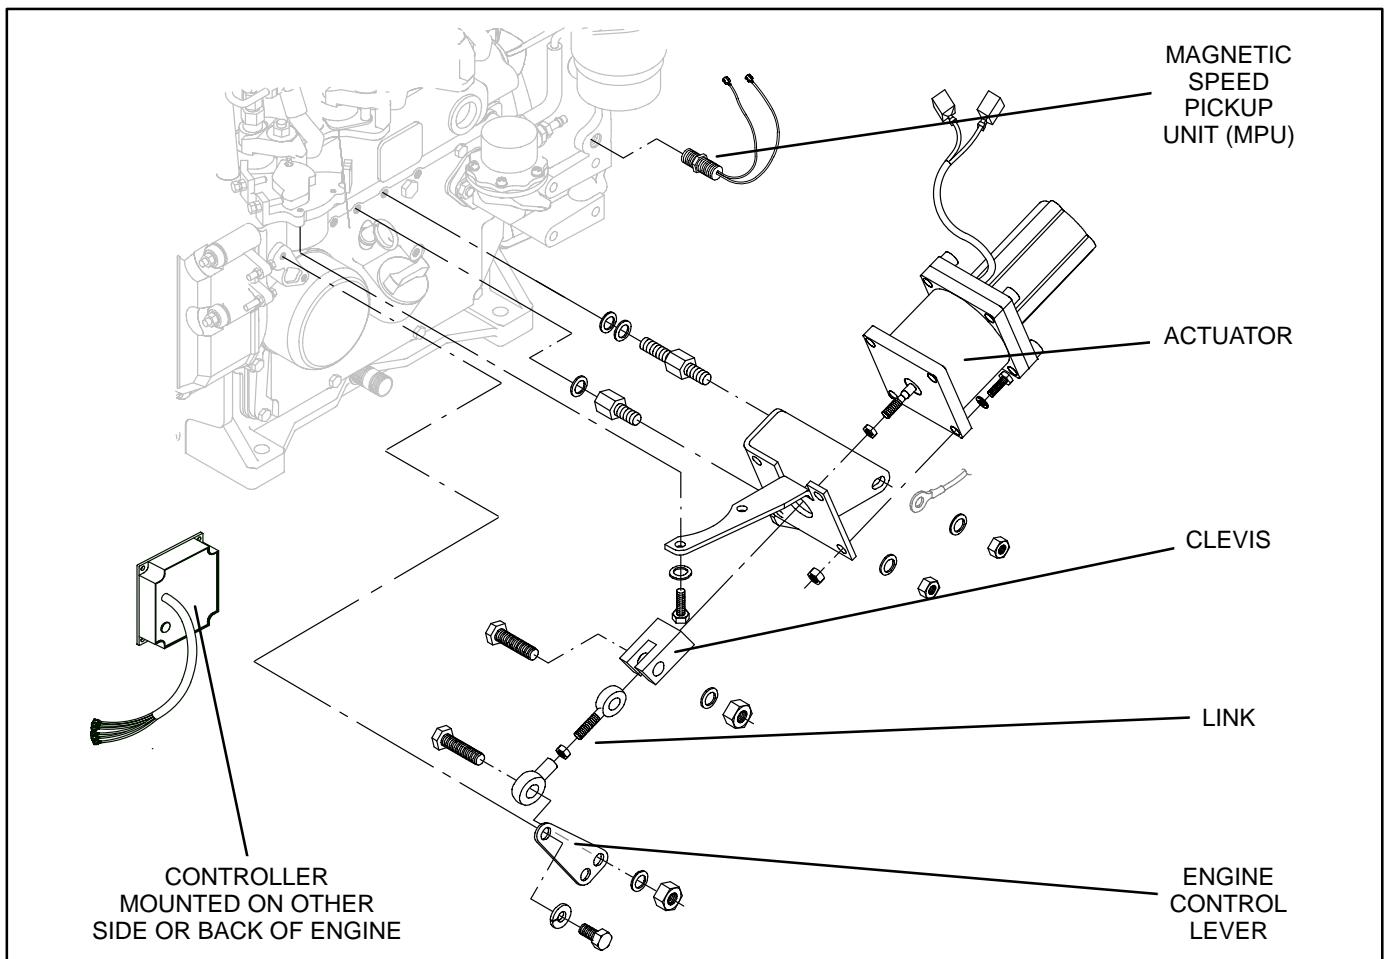

FIGURE 8-51. ELECTRONIC GOVERNOR
1. Make sure the governor actuator is securely mounted, that the clevis on the end of the armature has full thread engagement, that its lock nut is set, and that the clevis pin lies horizontal so that the link will not bind (Figure 8-51).
Measure AC output of the MPU (Figure 8-51) while cranking the engine. If output is less than 2.5 volts RMS (meter must have 5000 ohms/volt AC input impedance or greater), remove the MPU and check for damage. If there is no apparent damage, reinstall the MPU as follows: